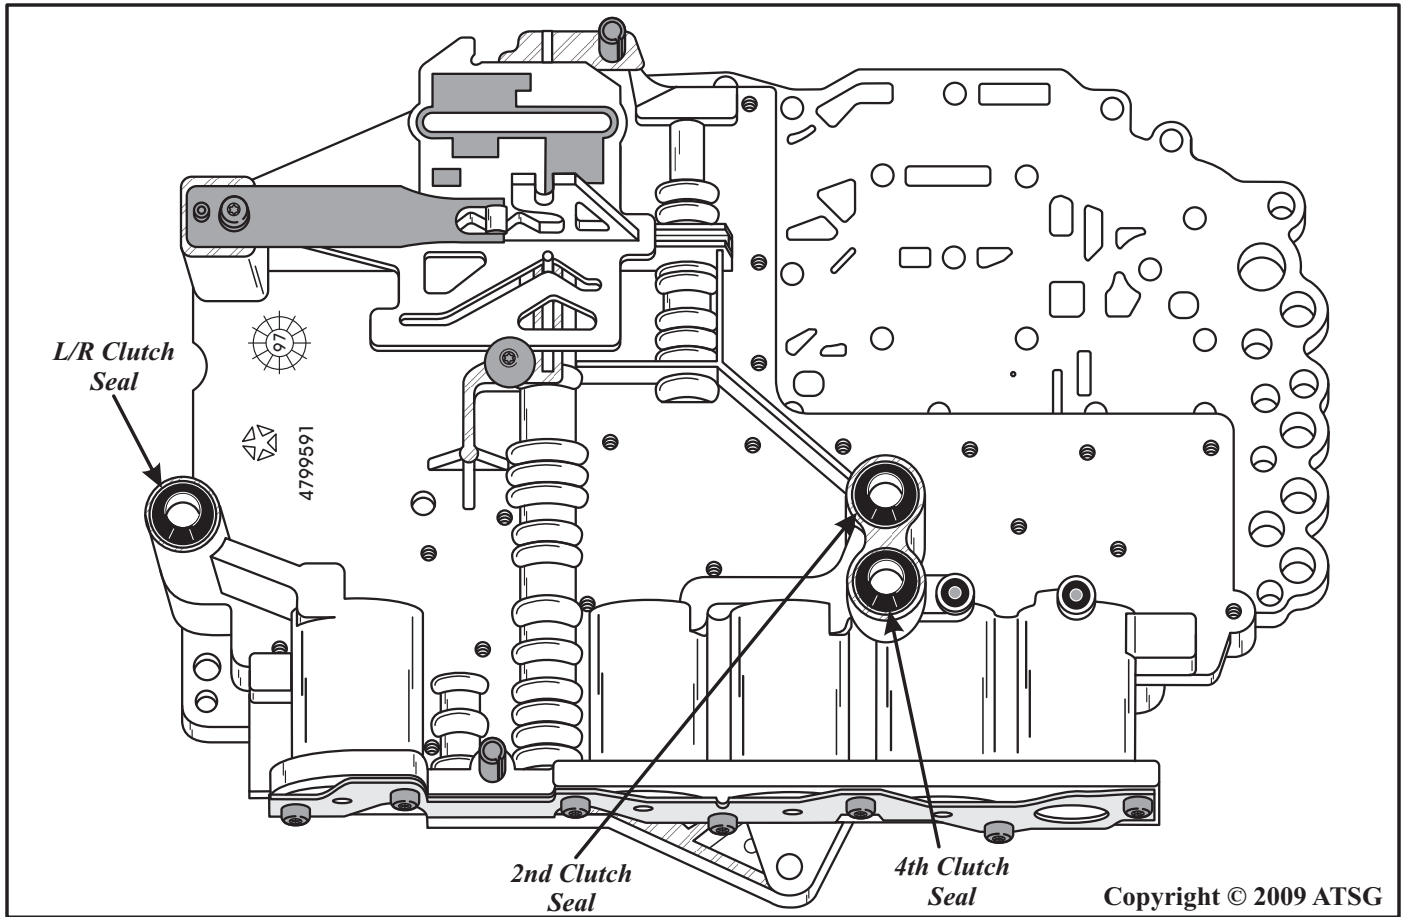

Figure 104
19. Install the low/reverse seal into the valve body with the "house-top" facing up, as shown in Figure 104.
20. Install a new 2nd clutch seal and 4th clutch seal into the valve body with the "house-top" facing up, as shown in Figure 104.